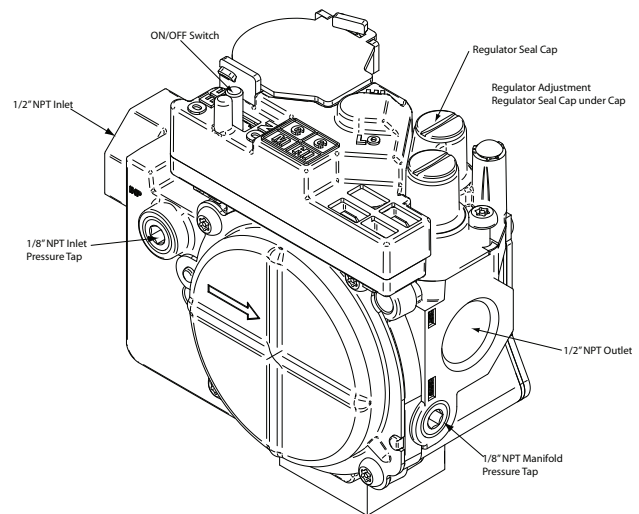

Fig. 10 - Two-stage valve
1. Refer to Fig. 10.
3. Remove caps that conceal adjustment screws for high heat and low heat gas-valve regulators. (See Fig. 10.)
1. Verify manometer is connected to inlet pressure tap on gas valve. See Fig. 10.